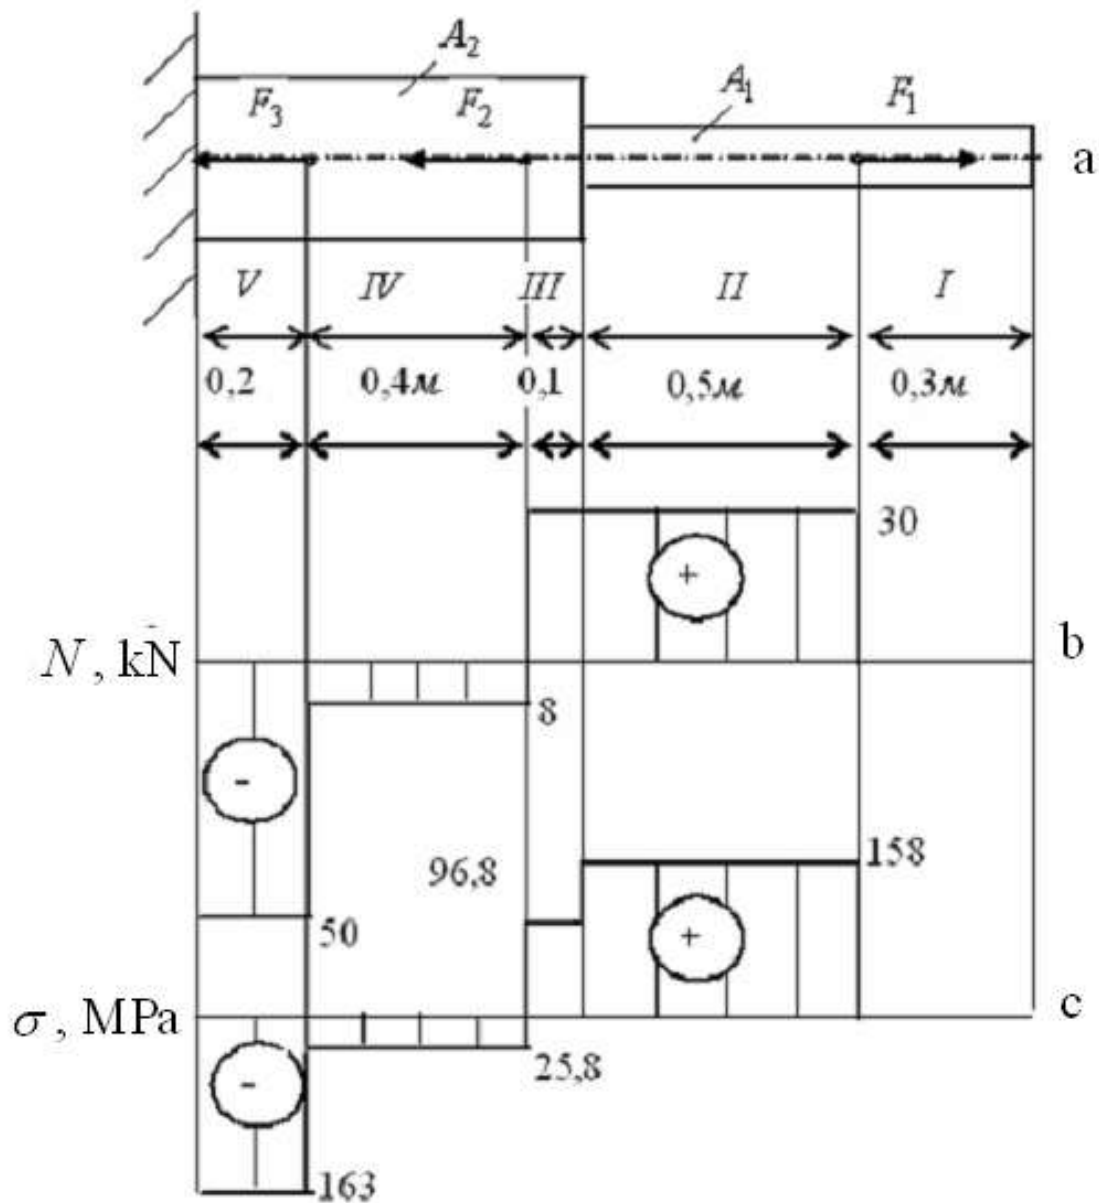

Fig. 3.2
For this squared beam (Fig. 3.2) to draw the diagrams of central forces and normal tensions, if:  $F_1 = 30$  kN,  $F_2 = 38$  kN,  $F_3 = 42$  kN,  $A_1 = 1,9$  cm2,  $A_2 = 3,1$  cm1.
1. Areas are indicated, as shown on Fig. 3.2, a.
Let us draw the diagram of central forces (Fig. 3.2, b).
Let us draw the diagram of normal tensions (Fig. 3.2, c).